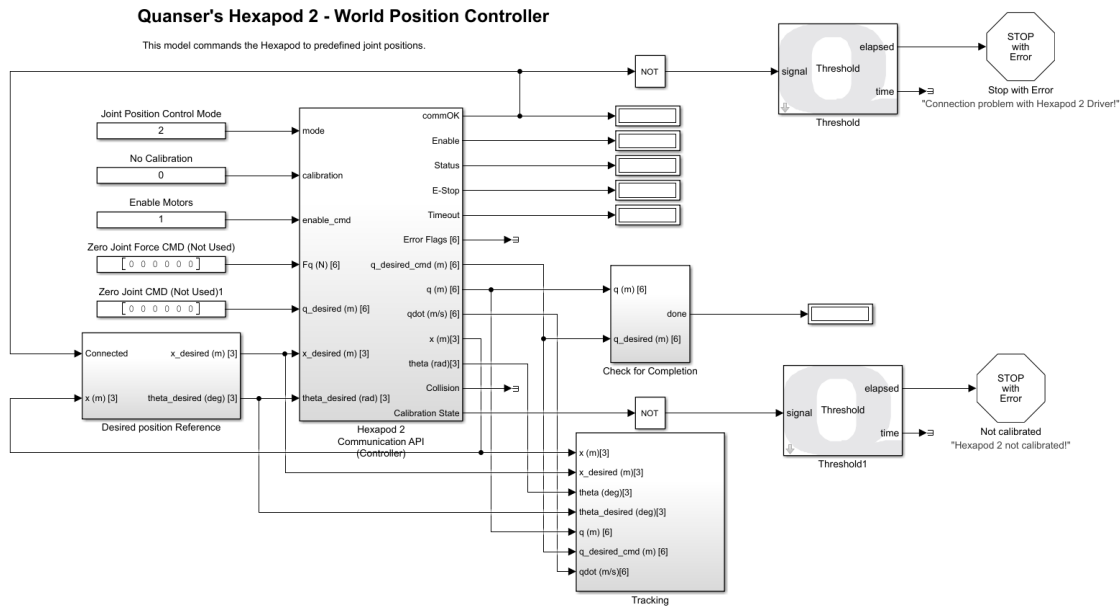

Figure 2.8: Simulink model used to command world-space positions to the Hexapod using QUARC.
This Hexapod2\_Controller\_World controller shown in Figure 2.8 controls the position of the upper stage. The amplitude and frequency of the sine or square wave can be adjusted for each of the end-effector's axes: X, Y, Z, Pitch, Roll, and Yaw.
3. Open the Simulink model called Hexapod2\_Controller\_World, shown in Figure 2.8.